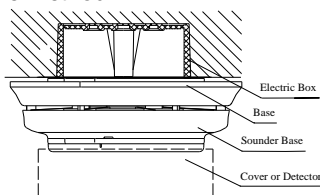

Fig. 2
- 2 Mounting of the sounder base is shown in Fig. 2.